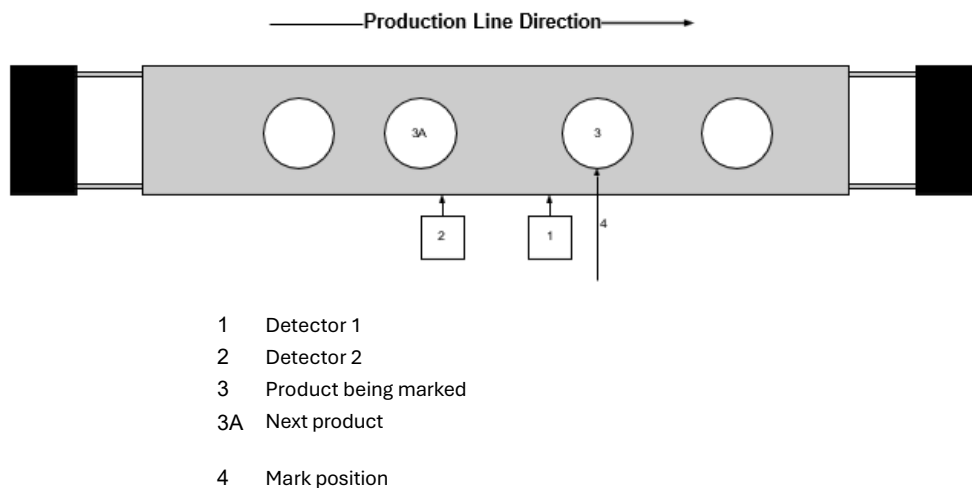

Figure 38 - Dual-detector configuration
In a dual-detector configuration, the detectors are mounted so that a gate signal from detector 2 is followed by a mark trigger signal from detector 1 and before detector 2 sends a new gate signal when it detects the next product. **Figure 38** shows an arrangement for dual-detector operation. Detector 1 (1) and detector 2 (2) are shown detecting the trailing edge of a product (3), which is currently being marked at the mark position (4). Detector 2 (2) will not detect the next product (3A) until after the current mark has been completed.